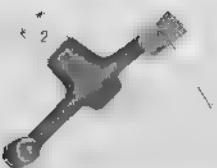

Fig. 3.36 Rocker arm
① Slider face ② Shaft base
4. Rocker arm (Fig. 3.36)